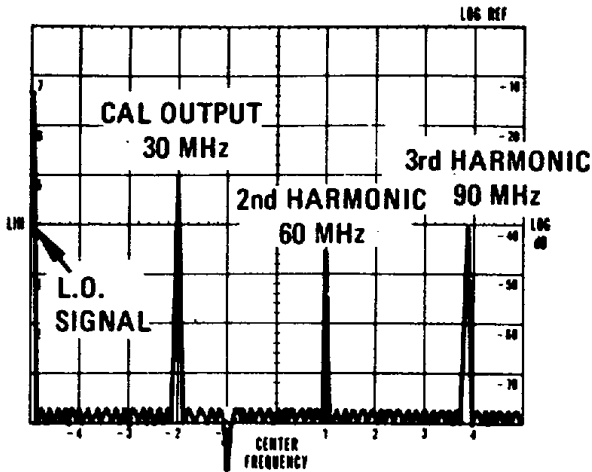

Figure 4-1. 30 MHz Calibrator Signal and Harmonics
4-15. Connect CAL OUTPUT to RF INPUT using a BNC-to-BNC cable. The analyzer CRT display should be similar to that shown in Figure 4-1.
- b. Adjust HORIZONTAL POSITION so display is centered on CRT. Then adjust HORIZONTAL GAIN until the displayed scan width is exactly 10 divisions. Some interaction between HORIZONTAL POSITION and GAIN may occur, requiring slight readjustment of the controls. The display on your CRT should now match Figure 4-1 almost exactly. (The amplitudes of the individual signals may be slightly different.)